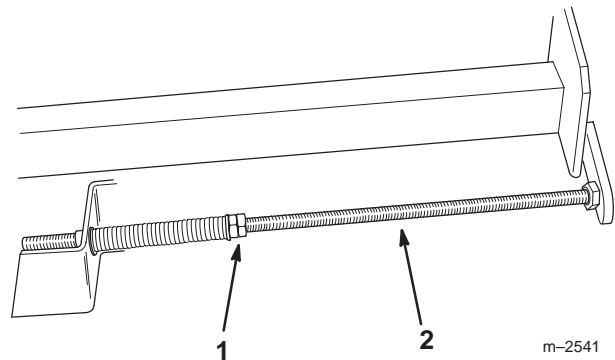

Figure 26
3. Loosen the jam nuts on each adjusting shaft to loosen the tension on the drive belt (Fig 26).